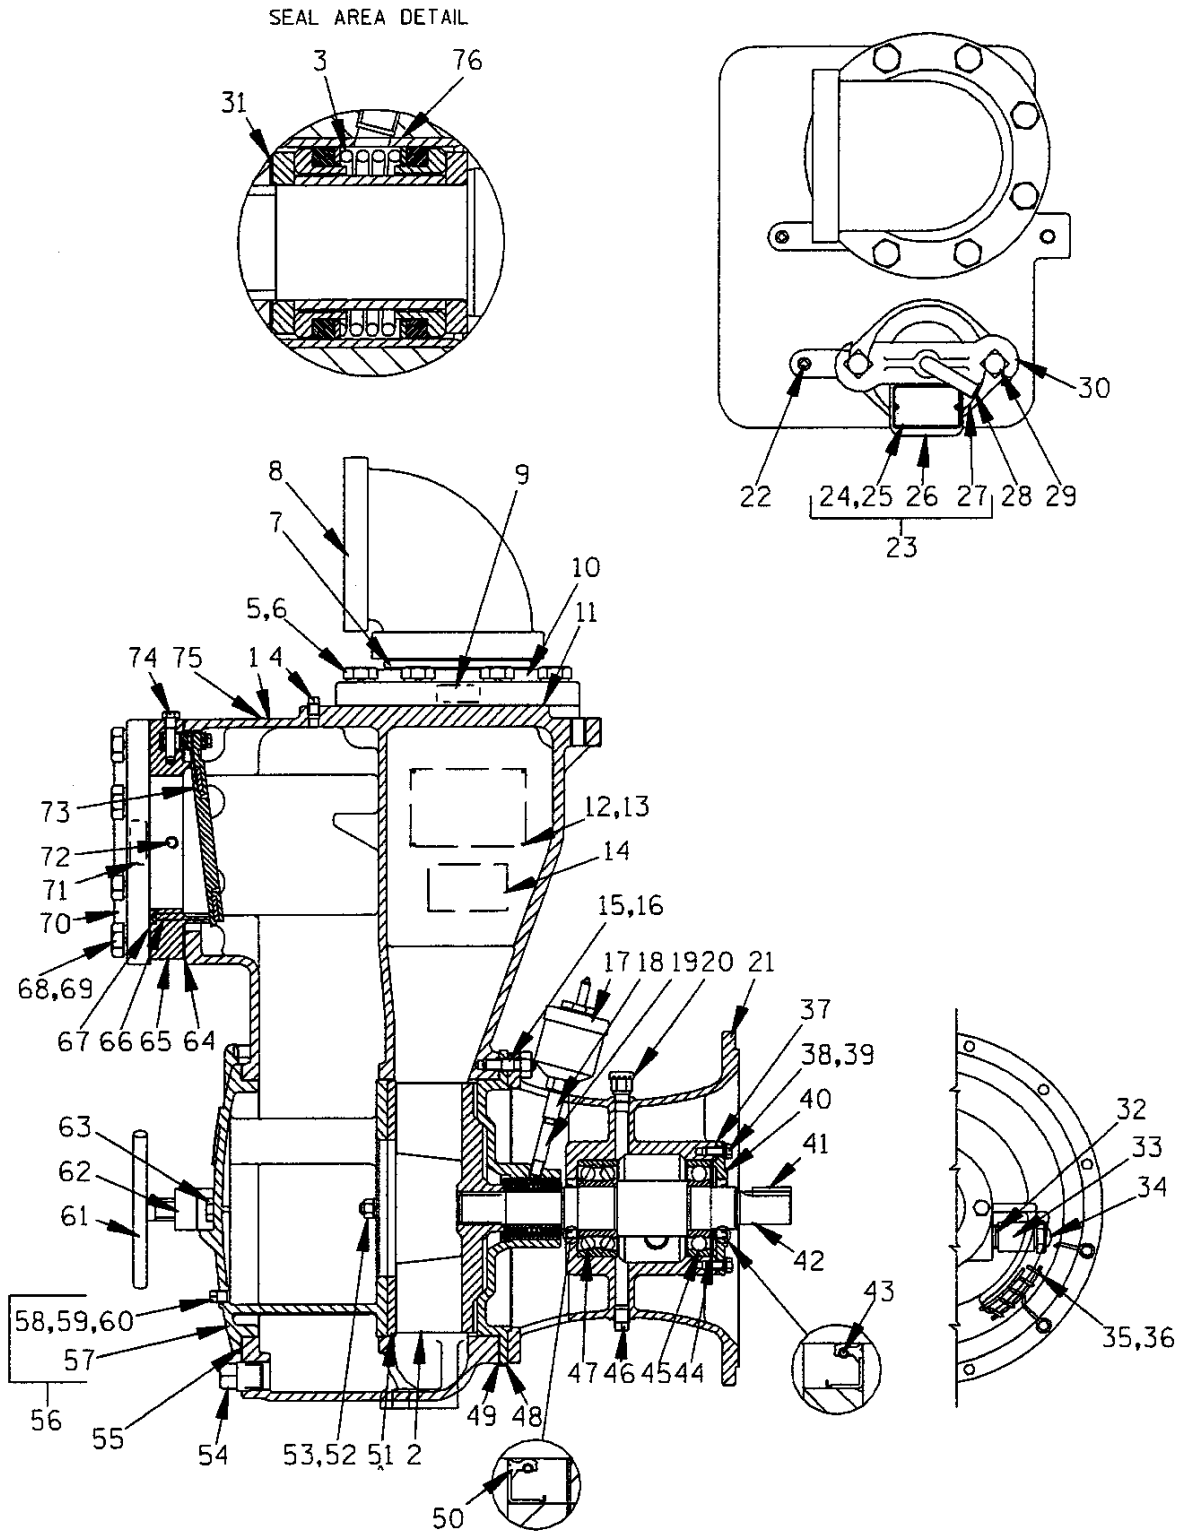

Figure 2. 16C2- (SAE4/10) Pump End Assy
(Figure 2)
If it is necessary to separate the intermediate and drive assemblies from the engine, support the intermediate using a hoist and sling, and remove the hardware (6 and 7) securing the intermediate to the engine bellhousing. Remove the intermediate guards (35 and 36, Figure 2), and separate the assemblies by pulling the intermediate straight away from the engine.
As the assemblies separate, the flexible portion of the coupling assembly (3) will remain on the shaft. To remove the coupling from the shaft, unscrew the two allen head setscrews from the bushing (2). Screw one of the setscrews into the puller hole on the circumference of the bushing. As the coupling and bushing separate, remove the bushing, and slide the coupling off the shaft. Remove the shaft key (41, Figure 2).